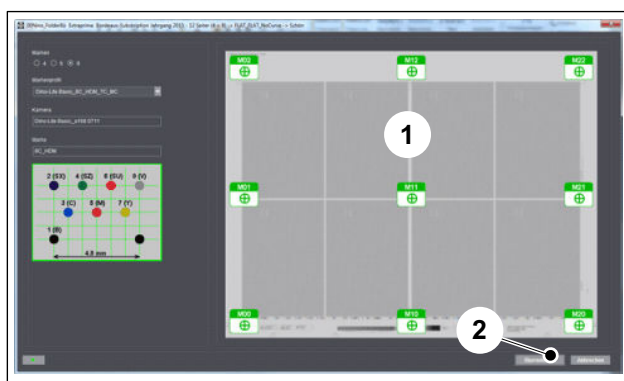

Fig. 20 Dialog box "Measurement editor"
- When all measuring marks are green (Fig. 20/1), the measurement cycle is complete. Click *Apply* (Fig. 20/2) to save the measuring results and begin the calculation.